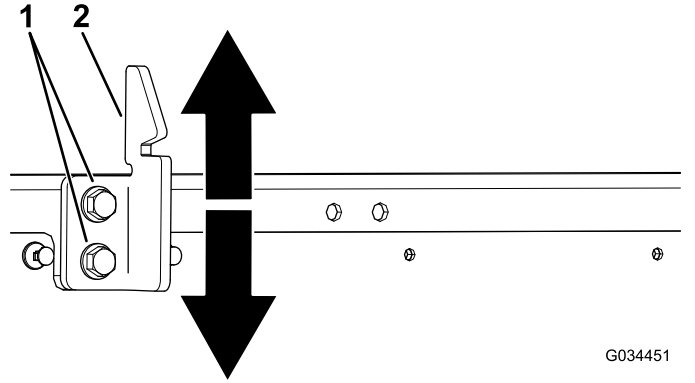

Figure 11
3. Loosen the 2 bolts on the bed-latch striker and move the striker up or down, depending on if the striker is too high or too low (Figure 11).
4. Tighten the 2 bolts on the bed-latch striker (Figure 11).